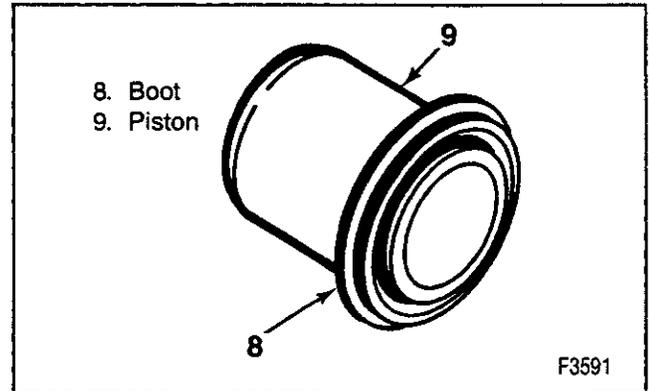

Figure 27—Installing the Boot on the Piston
2. Piston seal (10).
3. Boot (8) on piston (9) (figure 27).
4. Piston (9) and boot into caliper bore.
B. Seat boot in housing using J 36474, J 36475, or J 38453 (figure 27).
5. Bleeder valve (11).